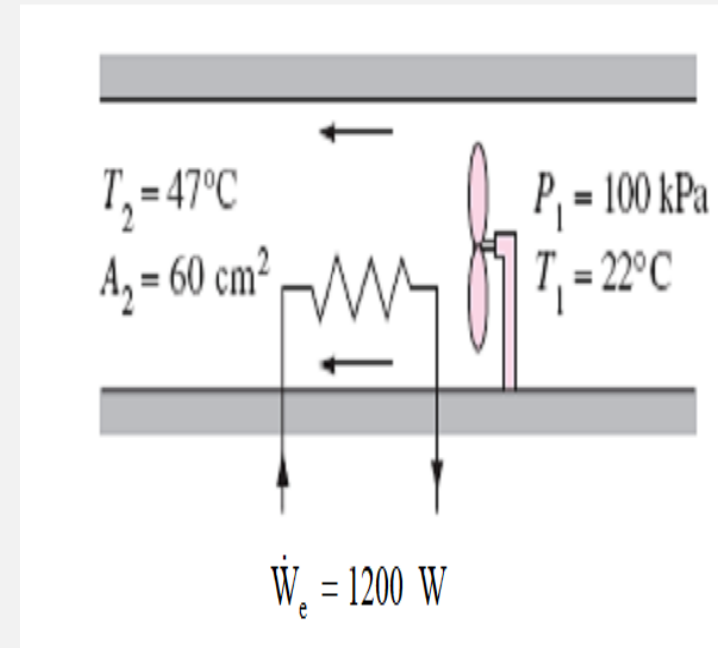

Figure Q4
3. A hand-held domestic hair-dryer, **such as the one shown in Figure Q4**, is basically a duct in which a few layers of electric resistors are placed. A small fan pulls the air in and forces it through the resistors where it is heated. Air ( $R = 0.287 \text{ kJ/kg K}$ ;  $C_p = 1.005 \text{ kJ/kg K}$ ) enters a 1200-W hair dryer at 100 kPa and  $22^\circ\text{C}$  and leaves at  $47^\circ\text{C}$ . The cross-sectional area of the hair dryer at the exit is  $60 \text{ cm}^2$ . Neglecting the power consumed by the fan and the heat losses through the walls of the hair dryer, determine